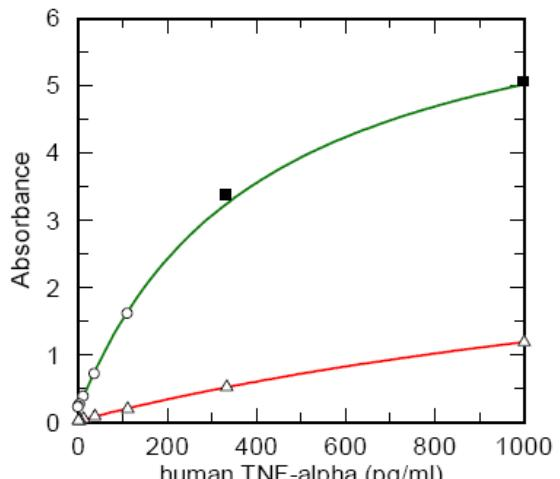

Figure 1
**Figure 1** shows the plot of two ELISA data sets for human TNF-a standard curves with a series of 3-fold dilution. The red curve is the plot of the data from the conventional ELISA setup and the green one is the plot of the data from the new ELISA setup. Both ELISAs were performed in 96-well plate with flat bottom according to the protocol provided in the kit except that, for the green curve, 25  $\mu$ l of TMB substrate solution was used instead of 100  $\mu$ l for the incubation with vortexing and the result was read out using the IMAPlate with the volume of 5  $\mu$ l.